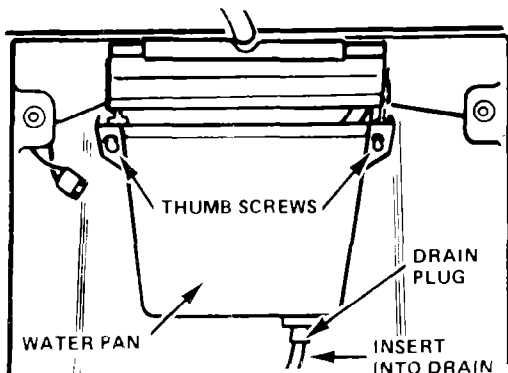

FIGURE 7
2. Remove the water pan by unscrewing the two thumb screws (Figure 7).
- Rubber drain plug is in water pan (Figure 7).